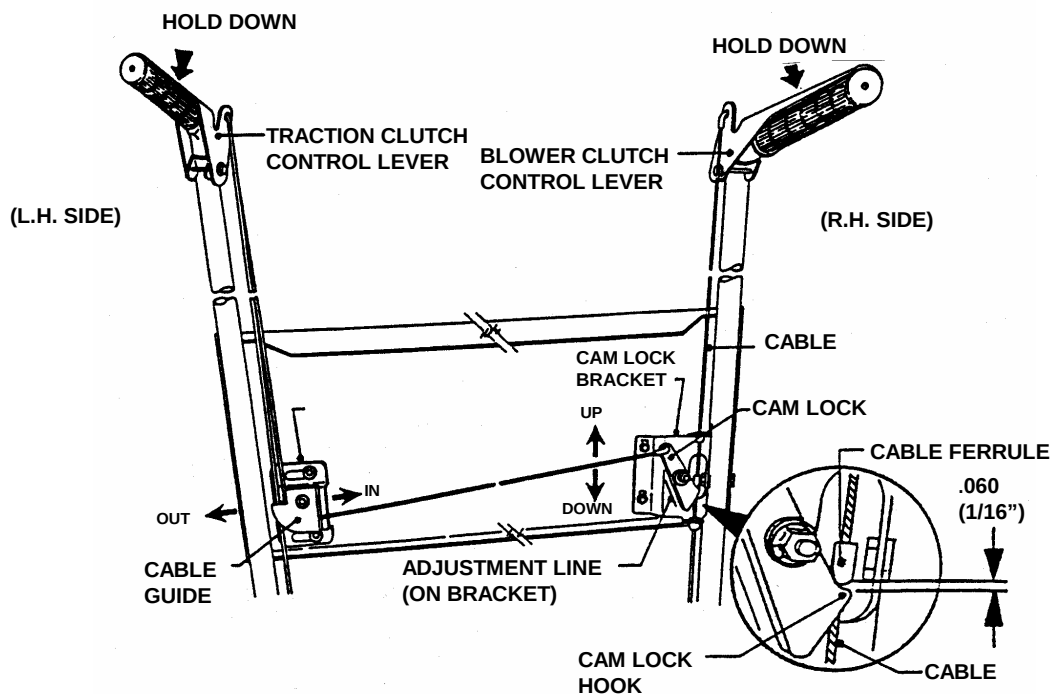

FIGURE 4.12
1. Hold the wheel drive control lever down against the handle. See Figure 4.12.
5. Check the position of the cable ferrule in relation to the cam lock. The ferrule must be located $\frac{1}{16}$ " (.060) above the hook of the cam lock. To adjust, loosen the three nuts that secure the cam lock bracket. Slide bracket up or down until correct measurement is achieved. Retighten nuts securely. See Figure 4.12.